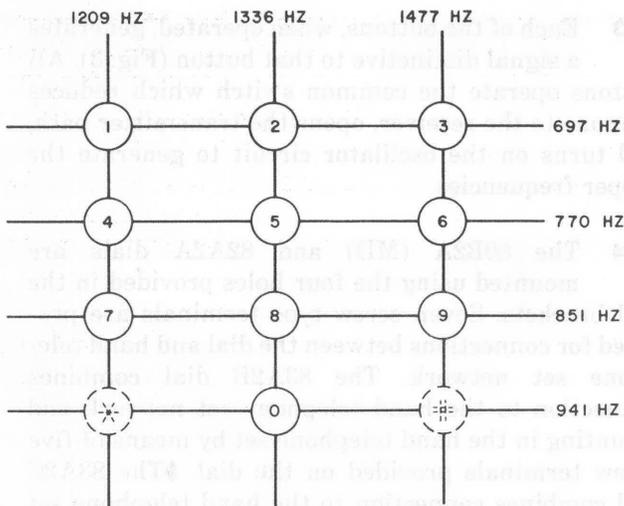

Fig. 3—Dial Frequencies
2.03 Each of the buttons, when operated, generates a signal distinctive to that button (Fig. 3). All buttons operate the common switch which reduces sidetone to the receiver, opens the transmitter path, and turns on the oscillator circuit to generate the proper frequencies.